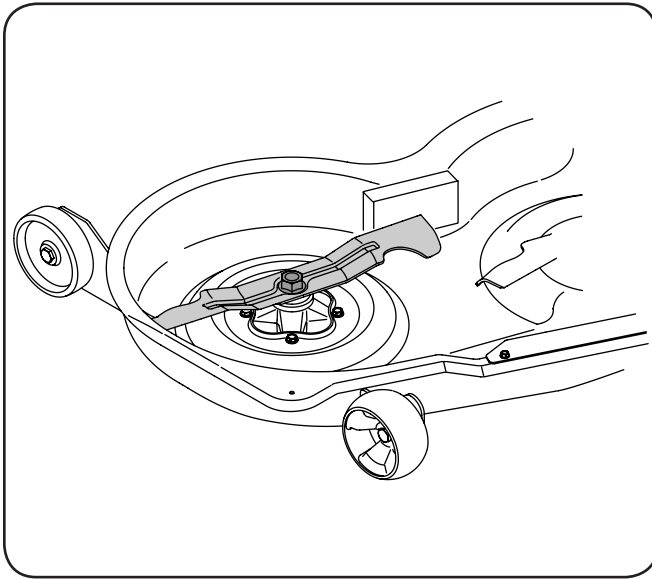

Figure 7-9
- Place a block of wood between the center deck housing baffle and the cutting blade to act as a stabilizer. See Fig. 7-9.
- Remove the hex flange nut that secures the blade to the spindle assembly. See Fig. 7-9.